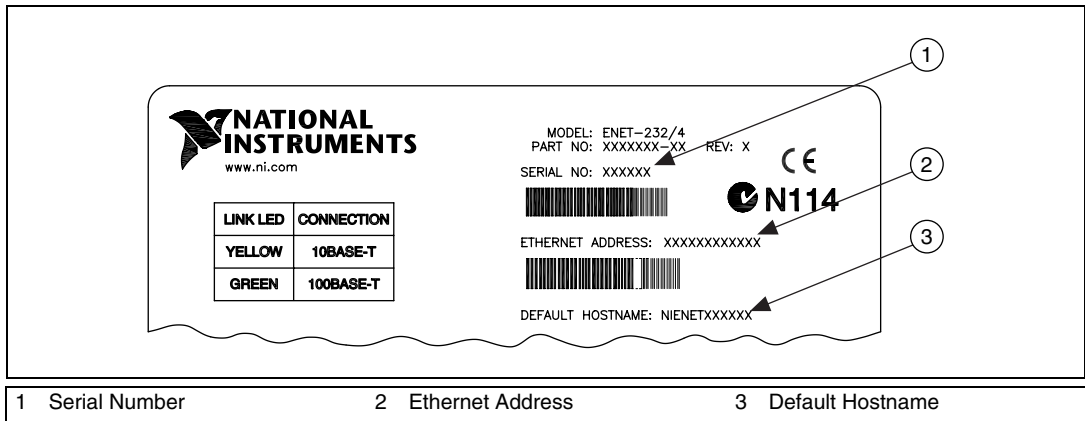

Figure 2-1. Serial Device Server Baseplate Identification Label
1. Locate the serial number, Ethernet address, and default hostname on the baseplate label of the serial device server, as indicated in Figure 2-1.